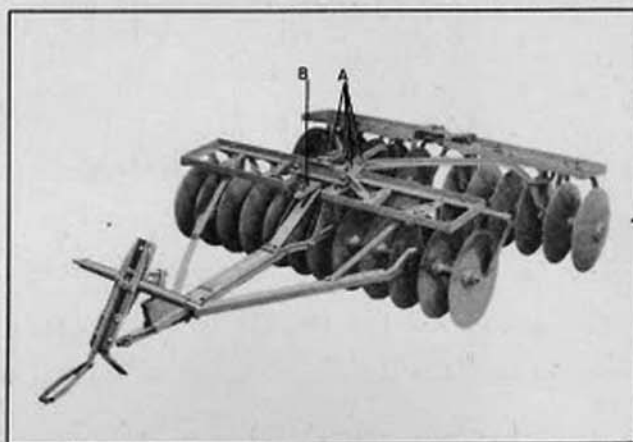

Fig. 14
- Note how the rear gang has been attached to the front by the four pins A. (Fig. 14). See that the washers in the bag are fitted to the lower ends of these pins before the cotter pins are fitted.